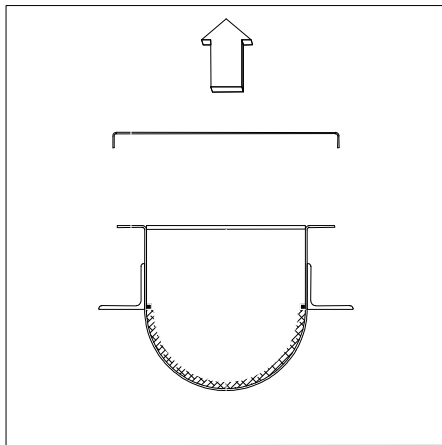

Figure 2.5.2a - Taking off the Cover
1. Empty the conveyor of material. Unfasten the lid and remove or push back from the trough (see Fig 2.5.2a)..